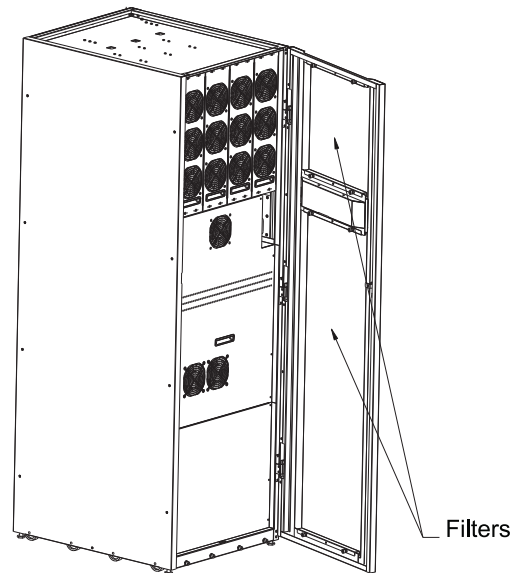

Figure 8-1: Air filter location
2. Check the UPS air filters (located behind the front door) and wash or replace as necessary. See Figure 8-1 below for filter location. Contact an Eaton service representative for replacement filters. To remove the filters: